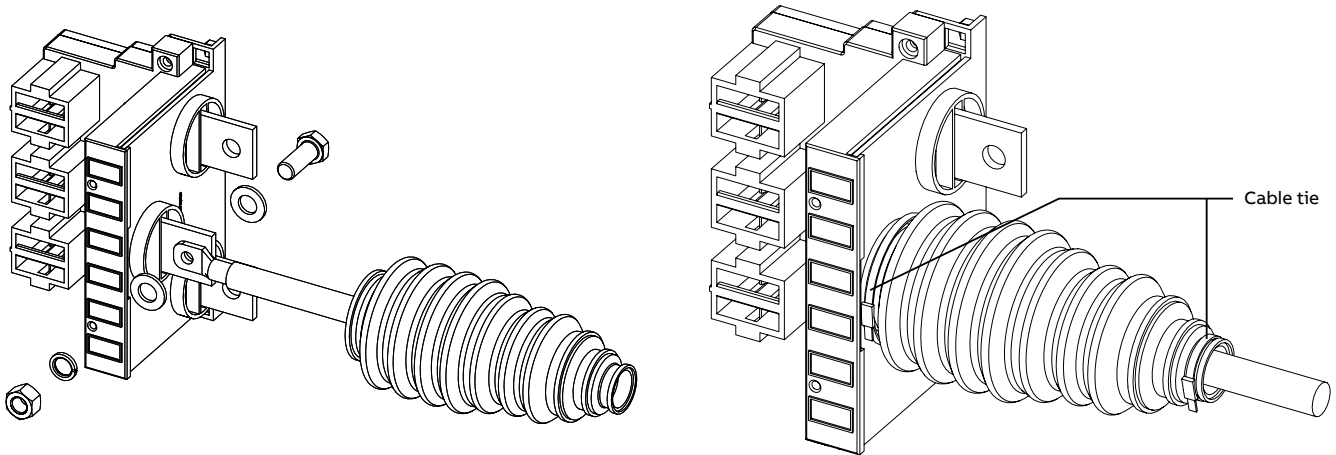

Figure 4-66 Cables provided with bellows for $\geq 4E$ withdrawable modules and fixing material (1 spring lock washer and 2 plain washers)
- Cables for full width withdrawable module size 4E and above are provided with bellows that are used for insulation purposes. Cables must be fitted with bellows before fastening to the cable connection unit. Bellows must be fitted to ensure exposed connections are and secured with a cable tie. See Figure 4-66.
Termination inside the cable compartment is similar to Figure 4-66